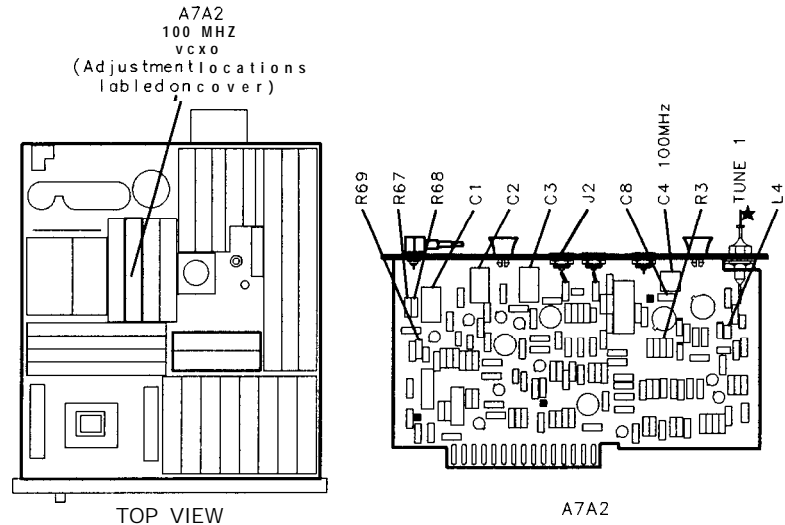

Figure 3-65. Location of 100 MHz VCXO Adjustments
- Set the dc power supply for an output of -8 Vdc. Connect the -8 Vdc output of the dc power supply to the A7A2TP1 TUNE test point. Refer to Figure 3-65 for the location of the A7A2 100 MHz VCXO Assembly and test point A7A2TP1 TUNE.
If the output power of the 100 MHz VCXO drops off by more than 1 dB within ± 300 Hz of 100 MHz, select a new value for factoryselect component A7A2L4. An increase of A7A2L4 by one standard value will shift the tuning range of the 100 MHz VCXO lower in frequency by approximately 500-600 Hz; conversely, a decrease in the value of A7A2L4 will shift the 100 MHz VCXO tuning range higher in frequency by the same amount. Refer to Table 3-7 for the acceptable range of values and corresponding HP part numbers for A7A2L4, and to Figure 3-65 for the location of A7A2L4.
If A7A2C4 100 MHz does not have sufficient adjustment range to tune the 100 MHz VCXO +300 Hz to 100.000300 MHz, select a lower value for factory- selected component A7A2C8; conversely, select a higher value for A7A2C8 if A7A2C4 does not have sufficient range to tune the 100 MHz VCXO -300 Hz to 99.999700 MHz. Refer to Table 3-3 for the acceptable range of values, and to Table 3-4 for HP part numbers; refer to Figure 3-65 for the location of A7A2C8.
8. Adjust A7A2C4 100 MHz slowly through its full range while monitoring the display of the second spectrum analyzer. The output of the 100 MHz VCXO should be a single output signal near 100 MHz, with no spurious oscillations at other frequencies. If spurious oscillations are present, increase the value of factoryselected component A7A2R3 by one standard value and check again for spurious oscillations. Refer to Table 3-3 for the acceptable range of values, and to Table 3-4 for HP part numbers; refer to Figure 3-65 for the location of A7A2R3.
values for the attenuator resistors to adjust the 400 MHz output power level to -10 dBm. Refer to Table 3-10 for HP part numbers, and to Figure 3-65 for the location of A7A2R67, A7A2R68, and A7A2R69.